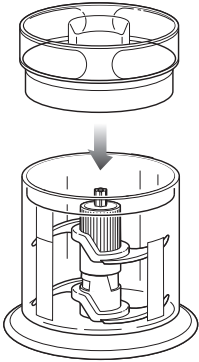

Fig. 3
- 4 Place the pitcher splash guard onto the top of the Ninja Master Prep Professional pitcher. (fig. 3)
5 Place the power head on top of the pitcher splash guard making sure that it is securely in place. (fig. 3) **DO NOT** attempt to operate the appliance without the safety splash guard in place.
- 5 Place the splash guard on the bowl. (fig. 3)